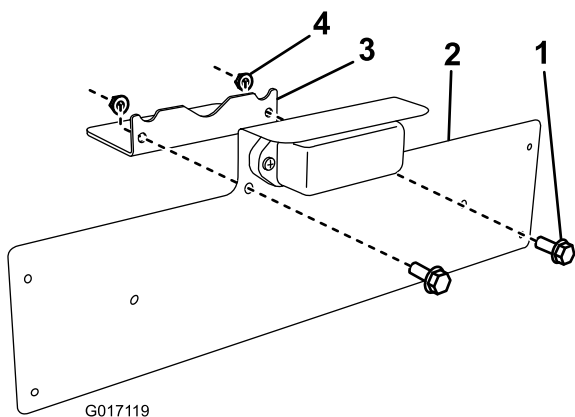

Figure 2
2. Install the light and bracket assembly to the mount using two hex-head flange screws (5/16-18 inch) and two lock nuts (5/16 inch) as shown in Figure 2.